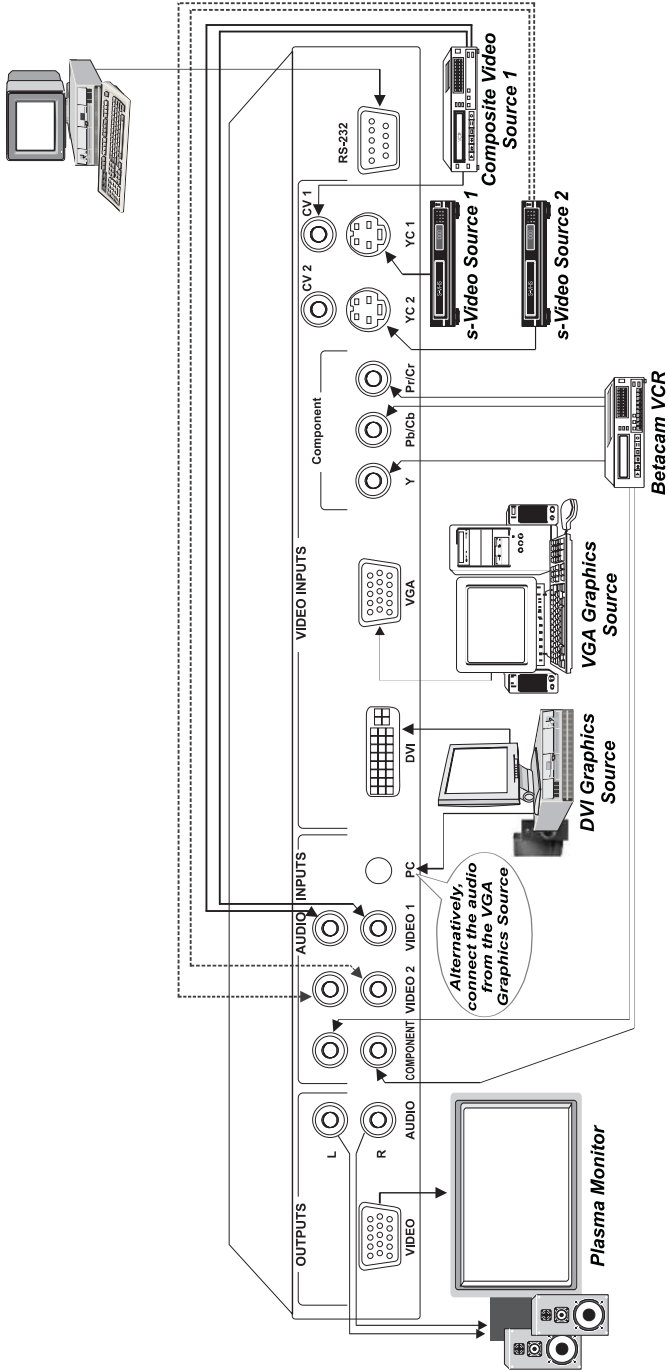

Figure 3: Connecting the VP-720DS / VP-723DS Rear Panel
To connect the **VP-720DS** or **VP-723DS**, connect the following² to the rear panel, as the example in Figure 3 illustrates:
- A component video⁴ source, for example, a Betacam VCR (as illustrated in Figure 3), to the 3 RCA connectors, Y, P_b/C_b, and P_r/C_r⁵
2. Connect the stereo audio sources, as illustrated in Figure 3. In particular:
3 Connection to CV 2 is not shown in the example in Figure 3
5 Alternatively, you can connect an RGB signal (not shown in Figure 3), as follows: RED to the “Y” connector, GREEN to the “Pb/Cb” connector, and BLUE to the “Pr/Cr” connector
6 Alternatively, you can connect a YUV signal to the HD15 connector (not shown in Figure 3), by connecting the “Y” connector to PIN 1, the “Pb/Cb” connector to PIN 2, and the “Pr/Cr” connector to PIN 3
- The audio of the DVI Graphics Source to the AUDIO INPUT PC 3.5mm socket¹. Alternatively, connect the audio from the VGA Graphics Source (not illustrated in Figure 3)
3. Connect the VIDEO OUTPUT HD15F connector² to the video acceptor, for example, a projector or a Plasma monitor (as shown in Figure 3), and connect the AUDIO OUTPUT pair of RCA connectors to the audio acceptor, for example, a power amplifier.
4. The power cord (the power connector is not illustrated in Figure 3).